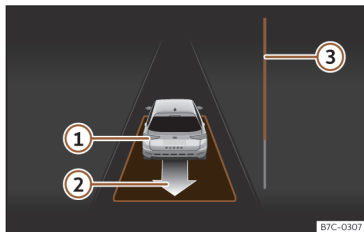

Fig. 175 On the instrument panel display: exit a parallel parking space.
The progress bar »» Fig. 175 ③ indicates the distance to cover »» page 258 .
- Press the brake pedal until the parking assist system completes the steering wheel turns; **OR**: press the brake pedal until the symbol ③ goes out on the instrument cluster screen.